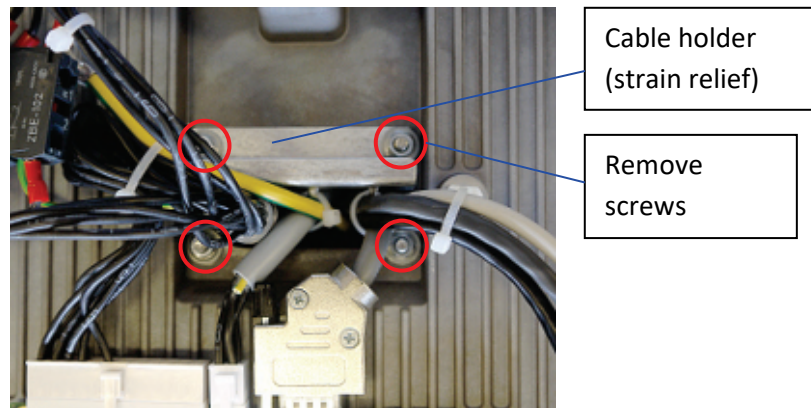

Fig. 51: Remove screws of the cable gland bracket
2. Remove the four retaining screws that secure the cable gland bracket and the cable holder (strain relief) at the inside of the cabinet (see Fig. 51). The cable straps which secure the cables at the cable holder do not need to be removed!
- Put the cable holder (strain relief) onto the two upper threaded bolts from the inside of the rear cover (see Fig. 51).
- Fasten the four M4 nuts of the cable gland bracket to a torque of 1.3 Nm (see also Fig. 51).